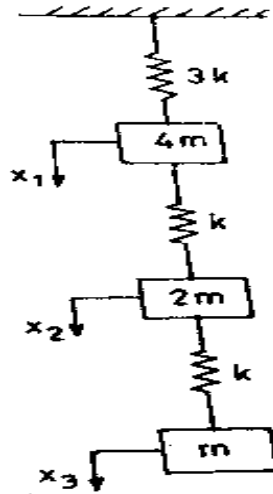

Figure.5
9. Determine the natural frequencies of the system shown in fig.5 using Holzer's method.